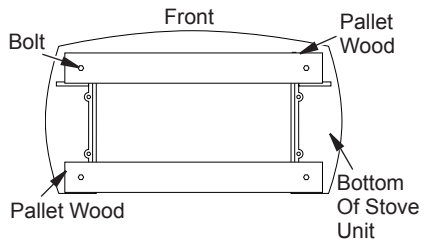

Figure 6 - Removing Pallet Wood From the Bottom of the Stove
6. Remove remaining pallet wood attached to bottom of stove body (see Figure 6). Use an adjustable wrench or 12 mm socket to remove bolts.